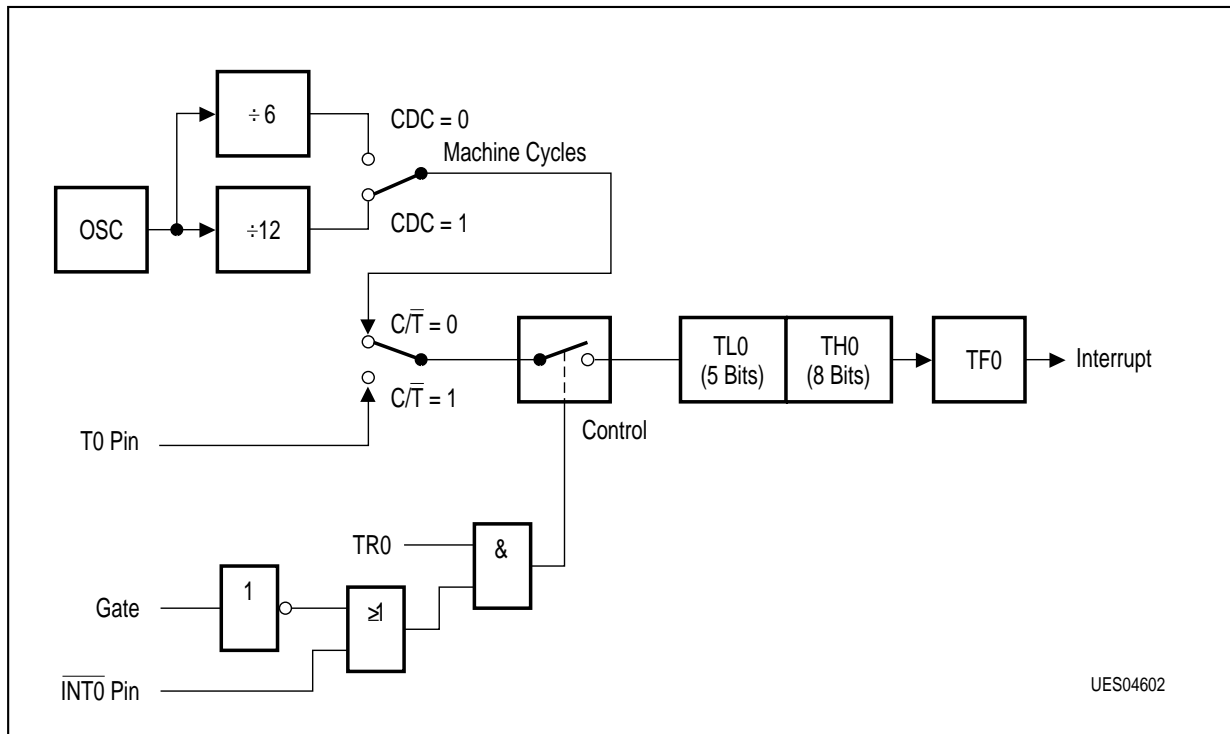

Figure 25
Putting timer/counter 0 into mode 0 makes it look like an 8048 timer, which is an 8-bit counter with a divide-by-32 prescaler. **Figure 25** shows the mode 0 operation as it applies to timer 0.
The use of the timer/counter is determined by two 8-bit registers, TMOD (timer mode) and TCON (timer control), as shown on **page 83** and **84**. The input to the counter circuitry is from an external reference (for use as a counter), or from the on-chip oscillator (for use as a timer), depending on whether TMOD's C/T-bit is set or cleared, respectively. When used as a time base, the on-chip oscillator frequency is divided by twelve or six (**see Figure 25, 26 and 26**) before being used as the counter input. When TMOD's GATE bit is set (1), the external reference input (T1, T0) or the oscillator input is gated to the counter conditional upon a second external input ($\overline{\text{INT0}}$), ($\overline{\text{INT1}}$) being high. When the GATE bit is zero (0), the external reference, or oscillator input, is unconditionally enabled. In either case, the normal interrupt function of $\overline{\text{INT0}}$ and $\overline{\text{INT1}}$ is not affected by the counter's operation. If enabled, an interrupt will occur when the input at $\overline{\text{INT0}}$ or $\overline{\text{INT1}}$ is low. The counters are enabled for incrementing when TCON's TR1 and TR0 bits are set. When the counters overflow, the TF1 and TF0 bits in TCON get set, and interrupt requests are generated.